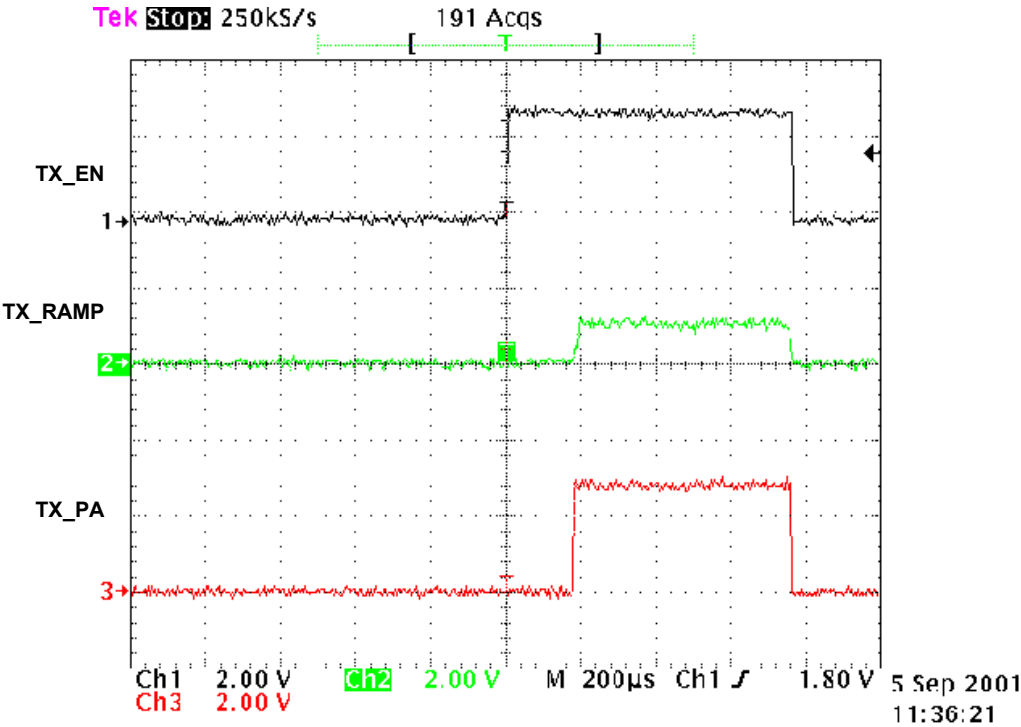

Figure 3-19. TX_EN, TX_RAMP, TX_PA.
5. TXEN, TXRAMP, TXPA (see Fig. 3-19)